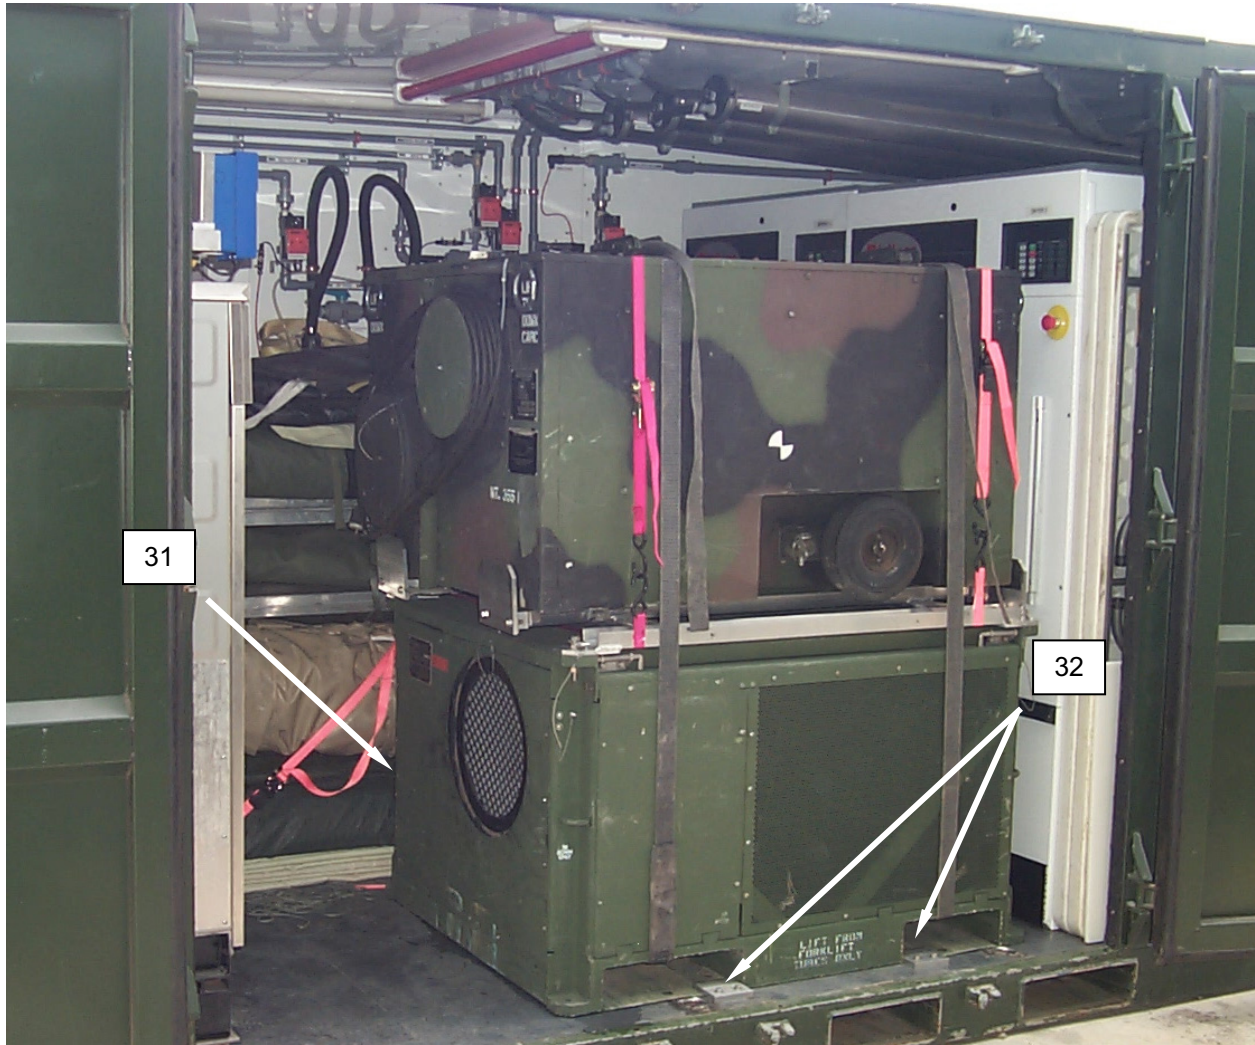

Figure 26. Centering the Fork Lift Pockets.
42. Ensure the forklift pockets on the FDECU (**Figure 26, Item 31**) are centered over the retaining bracket positions, and install the two flat retaining brackets (**Figure 26, Item 32**) in place in the CBL floor, clamping the forklift pockets.